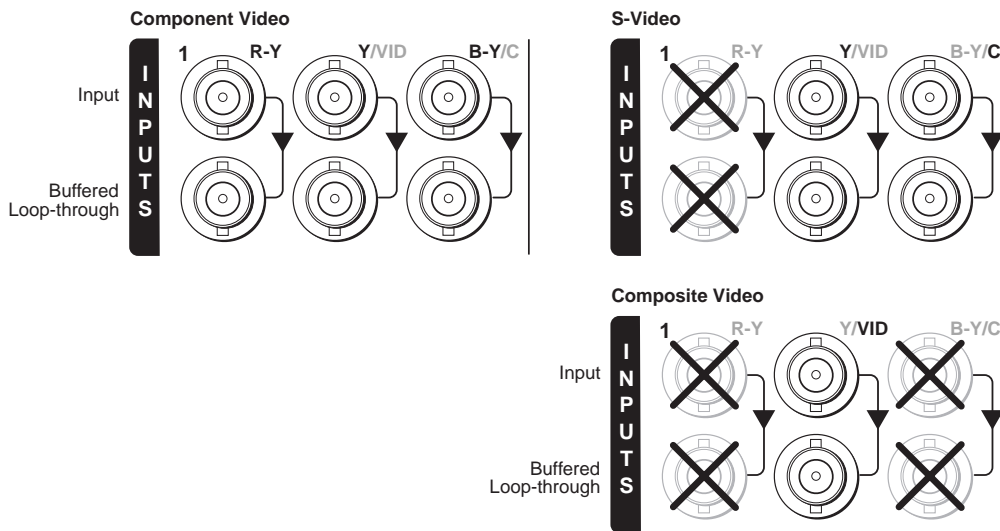

Figure 2-5 — Video input and buffered loop-through connections
- ① **Power connector** — Plug the provided IEC power cord into this connector.
- ② **Input (top) connectors** — Connect up to two (PIP 422) or four (PIP 444) component video, S-video, or composite video input devices to these BNC connectors. Figure 2-5 shows how to connect the various video formats.